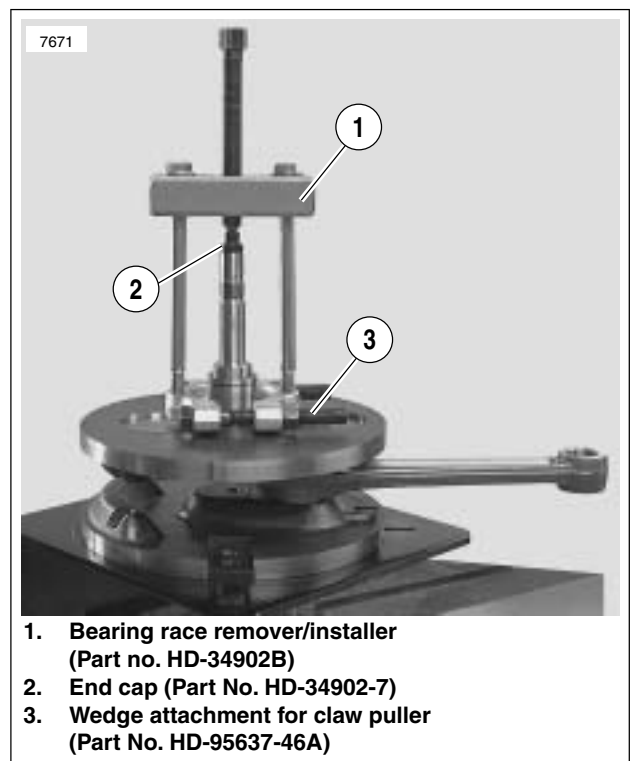

Figure 3-117. Pulling Pinion Shaft Inner Race
13. See Figure 3-117. To remove pinion shaft inner race, use WEDGE ATTACHMENT for CLAW PULLER (Part No. HD-95637-46A) with BEARING RACE REMOVER/INSTALLER (Part No. HD-34902B) and END CAP (Part No. HD-34902-7). Apply heat to race to aid removal. Four sizes of pinion bearings are available. Pinion bearing selection at the factory, during engine rebuild, or replacement of crankcase set or flywheel assembly is based on the largest measured outside diameter (OD) of the inner race and the smallest measured inside diameter (ID) of the outer race (crankcase bushing). A running clearance of 0.0002-0.0008 in. (0.0051-0.0203 mm) is established during crankcase set or flywheel assembly replacement and engine rebuild.